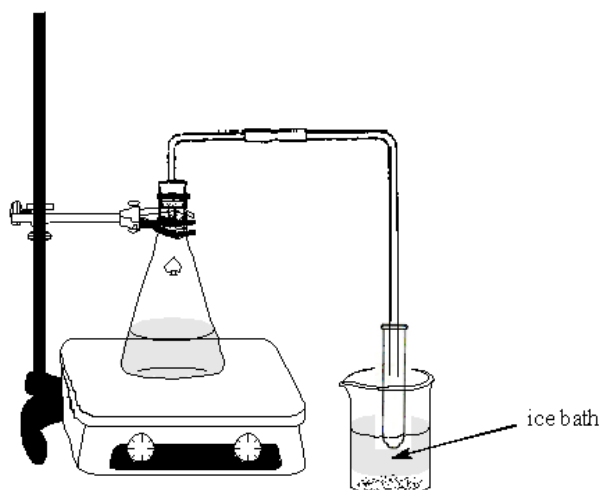

Figure 1 Distillation apparatus
1. Fill an Erlenmeyer flask with 100 mL of tap water using the graduated cylinder. Add a few crystals of CoCl_2 to the water to give the water a slight pink color. Put in a few boiling chips. Clamp this flask on top of a hot plate (as shown in figure 1 below). Close the flask with a rubber stopper having a glass U-tube inserted in it with one sides of the u-tube being longer than the other. The longer side should be inserted in a test tube placed in an ice bath (the test tube should not be stoppered). Turn on the flame and distill slowly until about 2 cm of distillate has accumulated in the test tube.